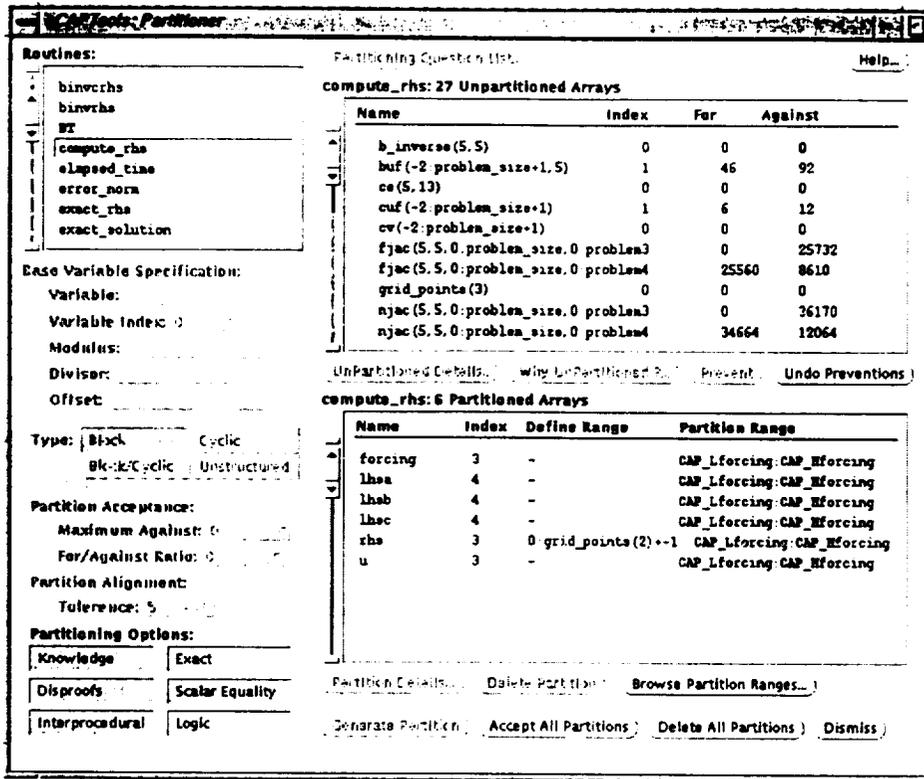

Figure T5-4: The Partitioner window after partitions on six arrays were deleted.
6. **Remove unwanted partitions.** If you use the result produced from Step 4 to generate message-passing code, you would notice that CAPTools place quite a few communication calls inside routine COMPUTE\_RHS, which exchange boundary values of some of the working arrays (such as qs, rho\_i...) for the partitioned dimension. These boundary values, in fact, can be calculated in the routine instead of being communicated from neighbors to improve the performance. This kind of improvement can be achieved within CAPTools by removing partitions on the relevant arrays (although it is not very obvious and intuitive). In the Partitioner window, select routine "compute\_rhs". Select "qs" in the Partitioned Array list and click the **Delete Partition** button. Apply the same procedure to arrays: rho\_i, square, us, vs, and ws. Figure T5-4 is what you will see after this process from which partitions on six arrays have been removed.